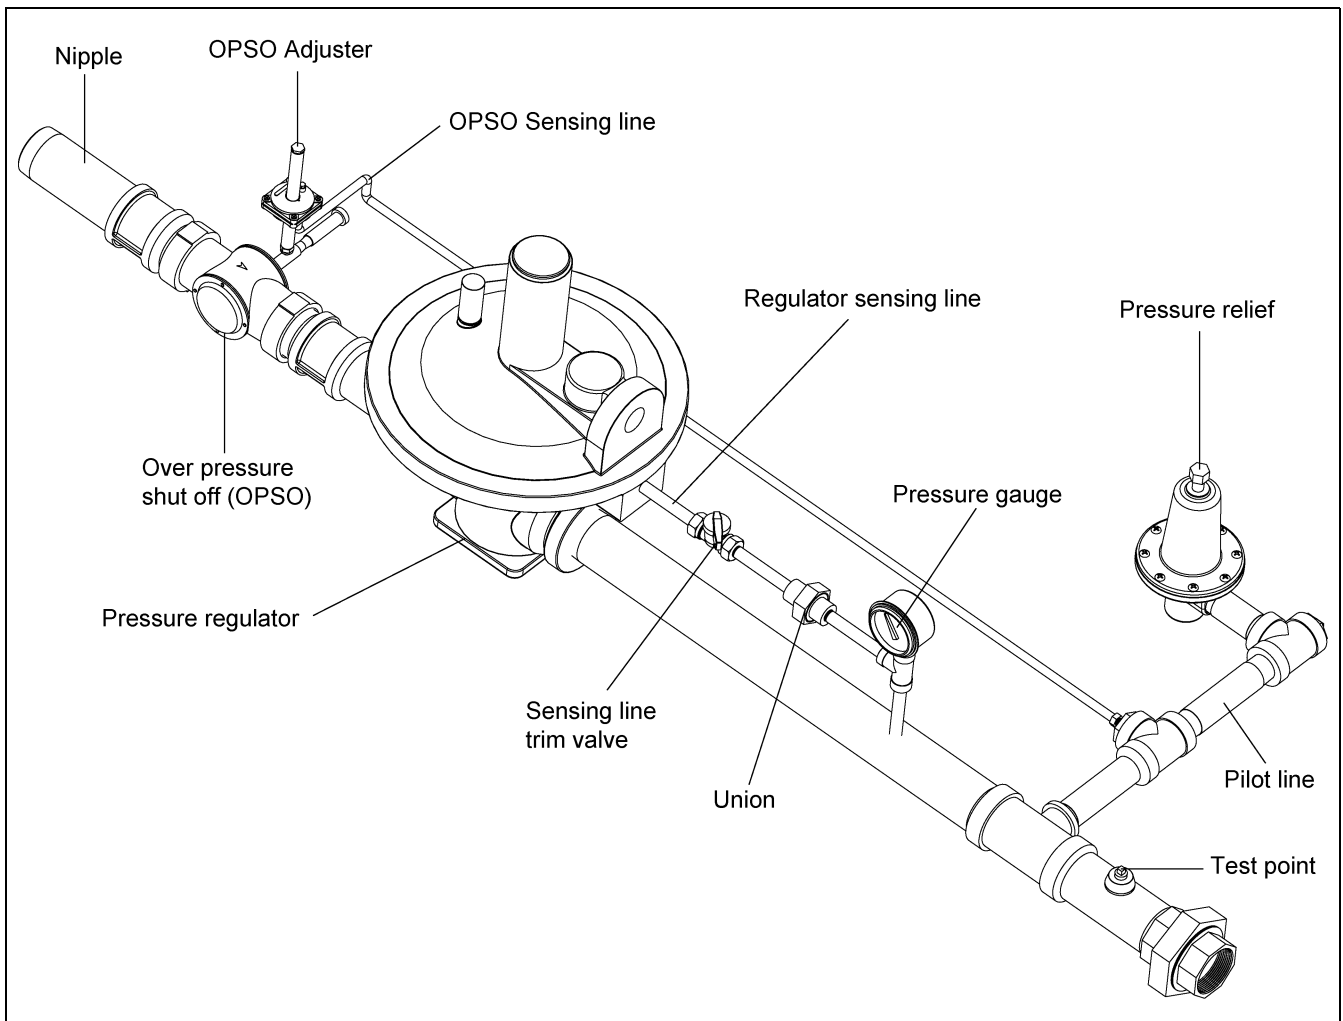

Figure 7D Regulator Section
- f. Read pressure at burner gauge. (See Figure 7D on Page 41.)
9. Read pressure at burner gauge. (See Figure 7D on Page 41.)